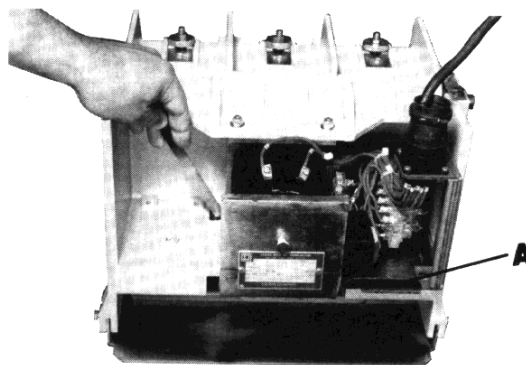

FIGURE 5
After the control contact block is factory adjusted, bolt (A) (See Figure 5) is sealed with TORQ-SEAL and field adjustment is normally not required. Adjustment of the control contact block may be checked as follows:
- 1) Insert a .05 inch spacer between the armature and the lower leg of magnet frame (See Figure 5). Energize the contactor and check by using a dc voltmeter that the voltage across the coil is greater than 90 volts dc.